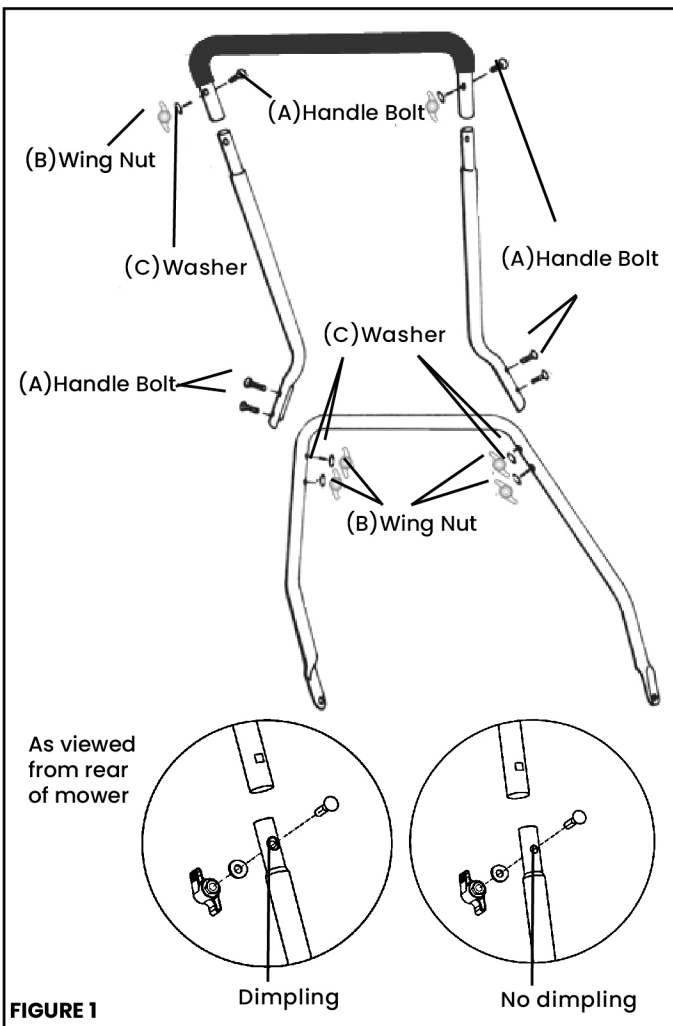

FIGURE 1
- 1. Insert** the two (2) center handle pieces into the left and right side of the top handle piece. The center handles are interchangeable. The dimpling around the hole does not indicate on which side the tube is to be placed. Secure the center handles to the top handle using the two (2) M6X35 bolts and wingnuts provided. It is recommended that the bolts are inserted from the front to the rear with the wingnuts to the rear of the handle. **(FIGURE 1)**
- 2. Fasten** the upper handle subassembly that you assembled in the preceding step to the lower handle subassembly using the four (4) remaining M6X35 bolts and wing nuts provided.